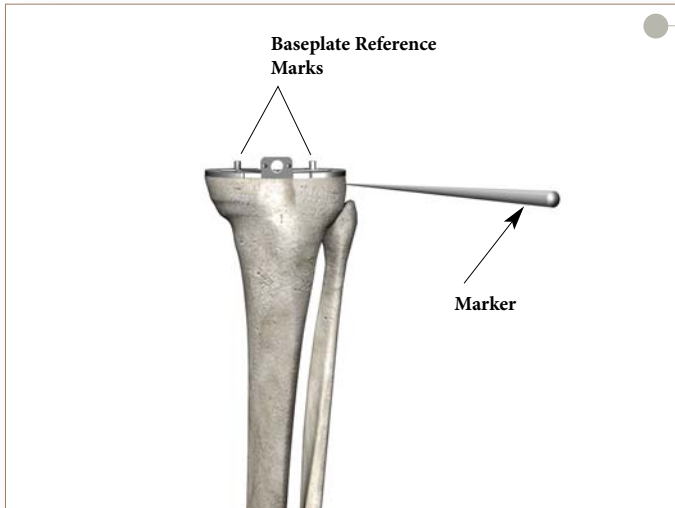

Figure 64
- ▶ Once satisfactory alignment and tibial component orientation is achieved, mark the anterior tibial cortex in line with the reference marks on the anterior border of the trial baseplate (**Figure 64**).